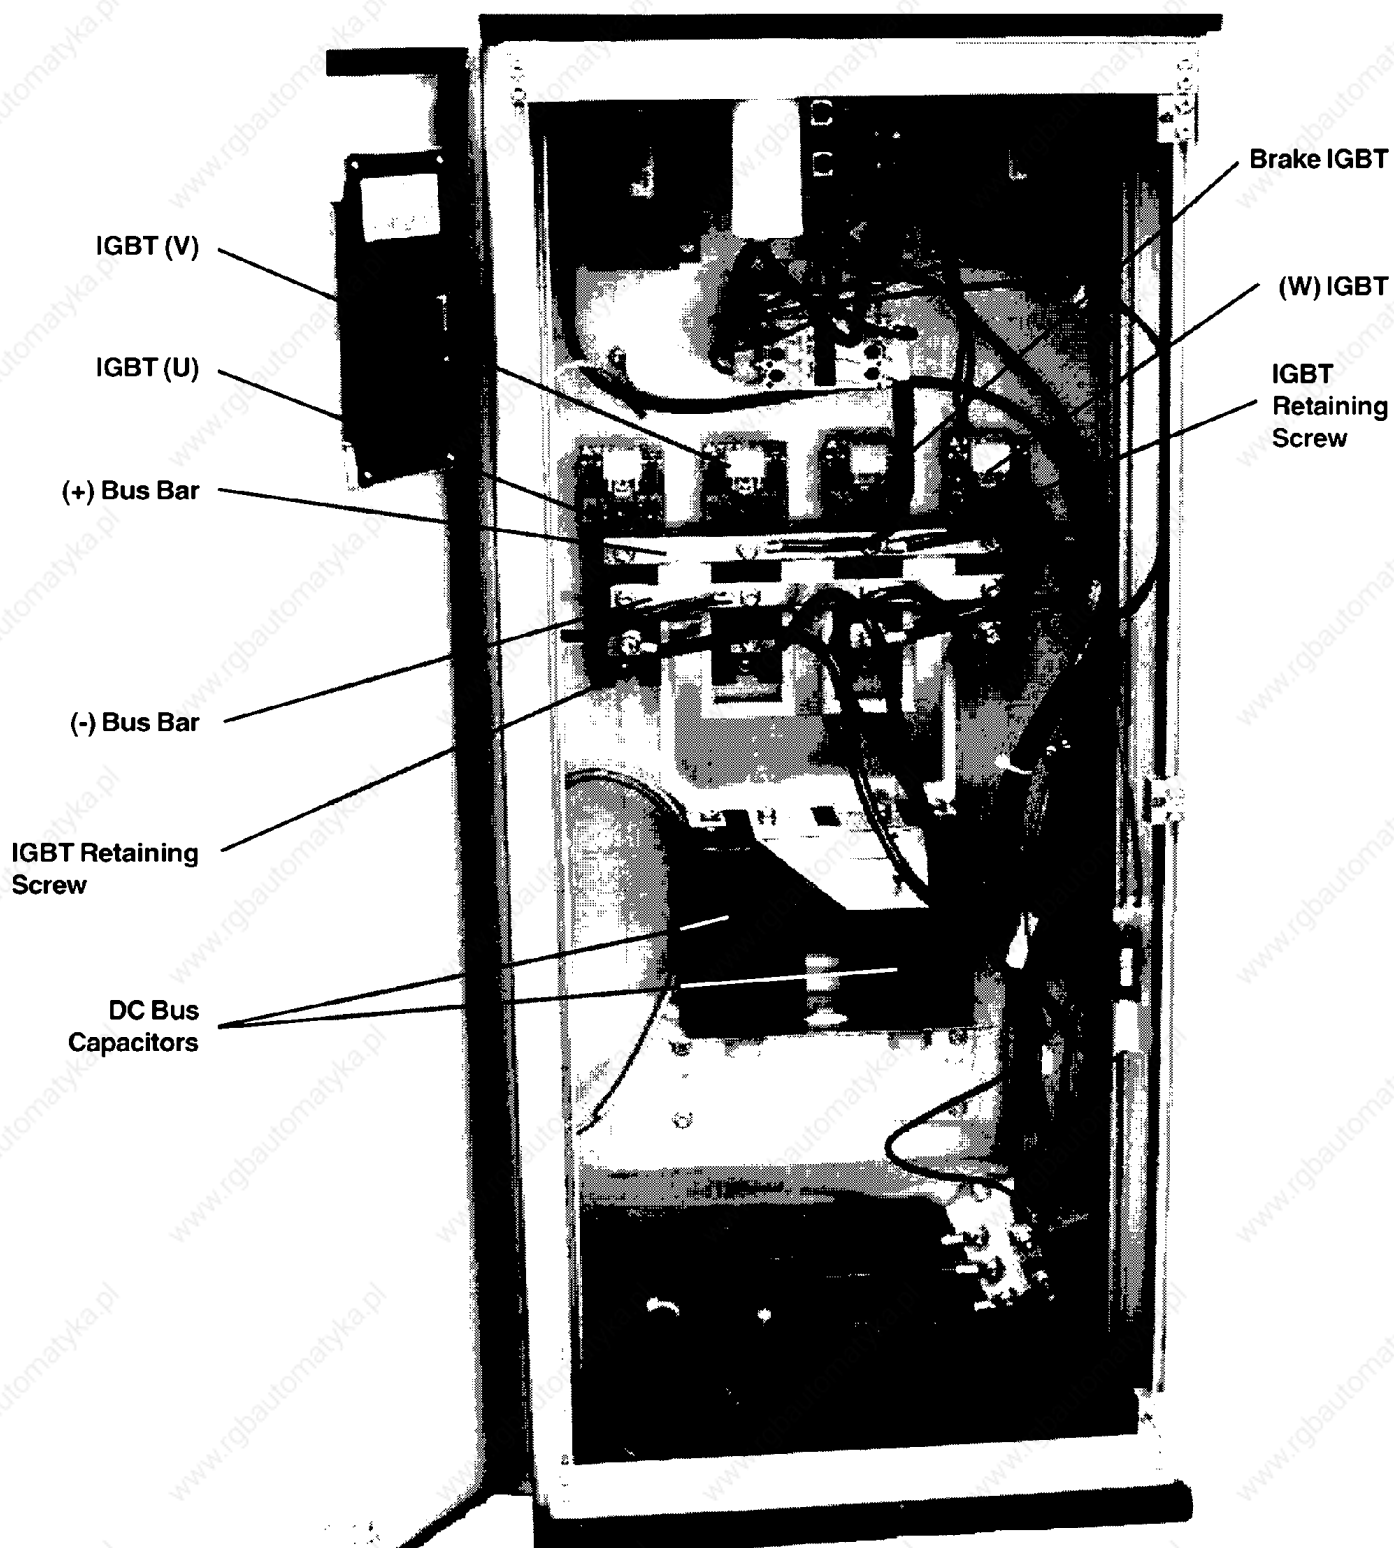

Figure 17: IGBT Removal
5. Remove two (2) bus bar and one (1) motor lead retaining screws from IGBT(s) to be removed (see Figure 17).
6. Remove two (2) IGBT mounting screws. Note: some IGBT configurations have four (4) mounting screws.